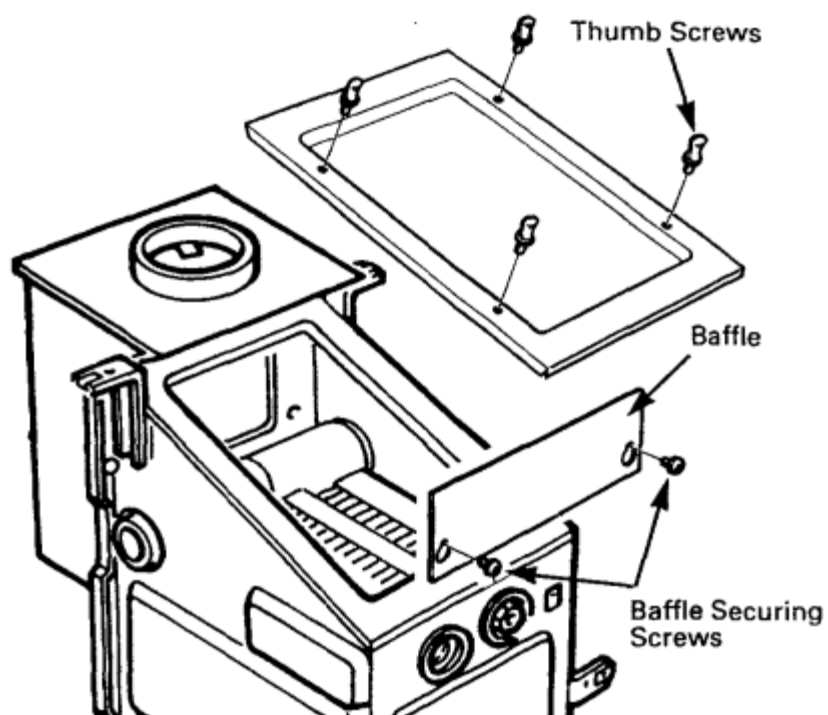

Fig 10 - Baffle Securing Screws
- 8) Remove the four thumb screws securing the top inspection panel (Fig 10).